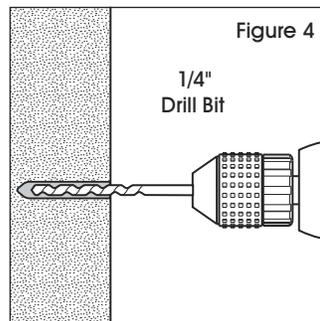

Figure 4
1. Determine board location. To position top hanging brackets, mark center hole of hanger 4" from outside edge of board and 7/8" down from top of board. (See Figure 3) Drill holes for each hanger in marked locations using a 1/4" drill bit. (See Figure 4)